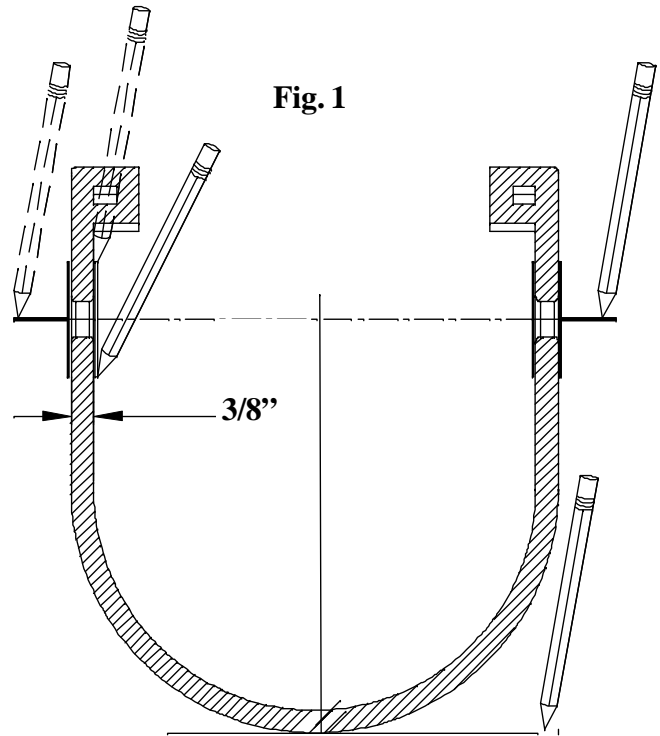

Fig. 1
1. Place the toilet and mark mounting holes' center line, and outside of the bowl (see FIG 1.) Draw a center line between two holes. Mark front hole outside and center and draw a line perpendicular to first center line.